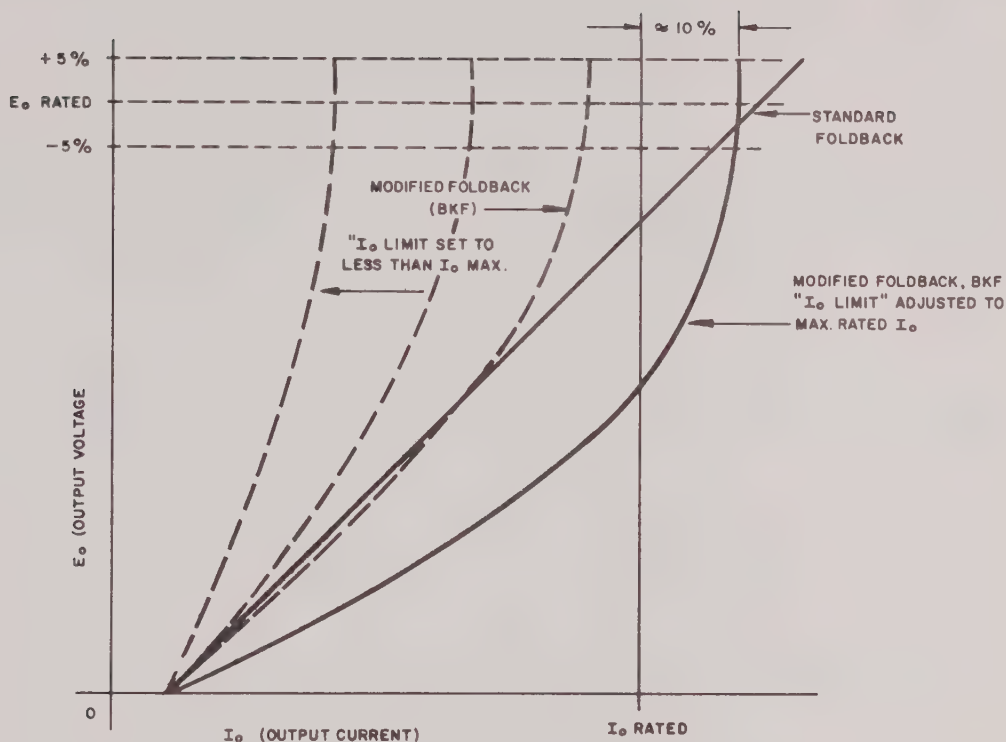

FIG. 4-2 FOLDBACK CHARACTERISTICS, BKF CURRENT LIMIT CIRCUIT
- a) **AC INPUT CIRCUIT.** AC line power is introduced through rear barrier-strip (TB1), terminals (1) and (2). Terminal (3) is connected to the chassis and should always be returned to AC ground. The fuse (F1) protects the primary of the power transformer (T201) from excessive current. T201 has two primary windings which are connected either in parallel (for 115 V AC service) or in series (for 230 V AC service).
- e) **CURRENT LIMIT CIRCUITRY.** The output current is constantly monitored by the "sensing resistor" (R10). The voltage drop across R10 (due to the flow of output current), is continuously compared to a portion of the output voltage, determined by the setting of the " $I_O$  LIMIT" control. At balance, the current limit circuit consisting of the external current limit stage (Q1,Q2) and the internal limiting stage ( $I_O$  Limit, part of IC-1), is inactive and the "error amplifier" (Part of IC-1) is in control. As the voltage drop across the "sensing resistor" (R10) increases (due to increasing load current), a point is reached, determined by the setting of the " $I_O$  LIMIT" control, where the current limit circuitry takes control away from the "error amplifier" and starts to reduce the drive to the internal predriver stage, the external main driver, and finally, the main pass-element. The resulting output current limit action, when viewed in the  $E_O/I_O$  plane, has "modified foldback" characteristics as indicated in FIG. 4-2.